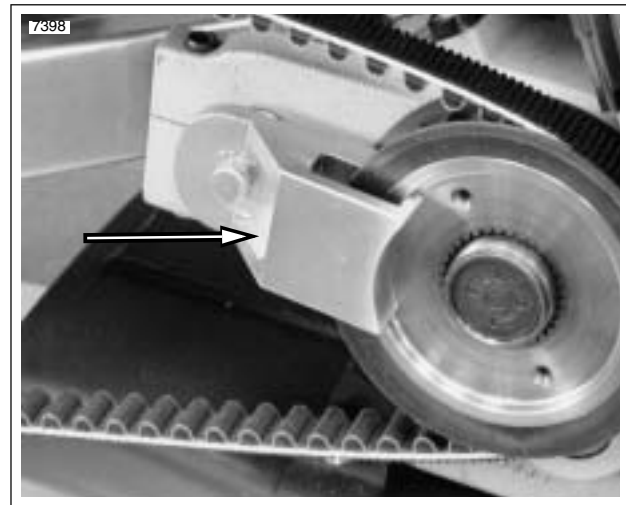

Figure 6-58. Sprocket Locking Tool (Part No. B-43982)
3. See Figure 6-58. Secure pulley using SPROCKET LOCKING TOOL (Part No. B-43982).
5. See Figure 6-58. Install SPROCKET HOLDING TOOL (1) (Part No. B-43982) as shown.